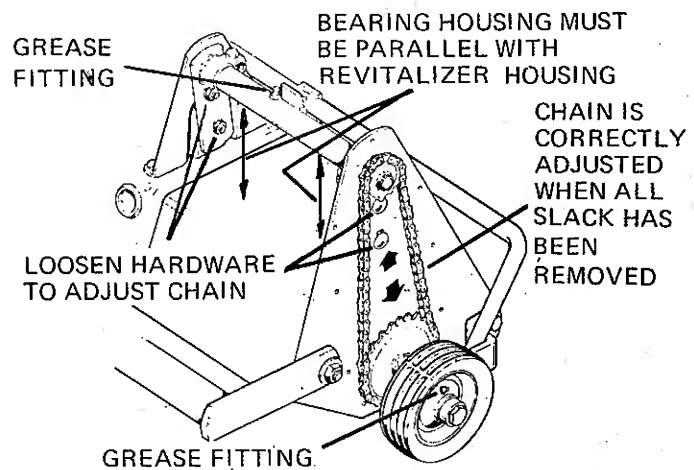

FIGURE 9
1. (See figure 9) With the chain cover removed so the chain is visible, loosen, but do not remove the two bolts holding each end of the bearing housing.
2. Pull upward on the bearing housing until all slack is removed from the chain. Before tightening the bolts at each end of the bearing housing, insure that the bearing housing is parallel to the revitalizer housing. This may be easily and accurately done by measuring the distance from the bearing housing to the revitalizer housing at each end of the bearing housing. When the two distances are equal, the bearing housing is parallel to the revitalizer housing. (See figure 9).
There are five grease zerks located on the revitalizer which should be lubricated with automotive grease after every 10 hours of use. They are located one on each of the two guide wheels, one on each of the two tine shaft bearings and one on the crossdrive housing. (See figure 9 and 10.) Lubricate each zerk with 5 shots of grease or until grease is pushed out around the bearings.